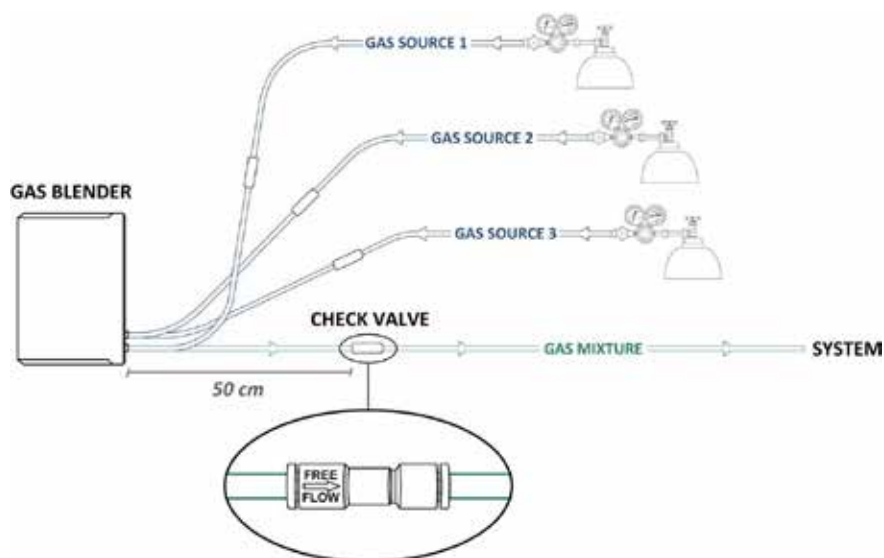

Fig 6
- 4. Gas Blender Outlet** - Another check valve must be positioned at a distance of 50 cm from the Gas Blender outlet to secure a proper working of the instrument. Take the 50 cm long tube and connect one end with the check valve (pay attention: the check valve must always be installed in the direction of flow sense), then connect the other end to your system, as shown in the pictures below (Fig. 6).